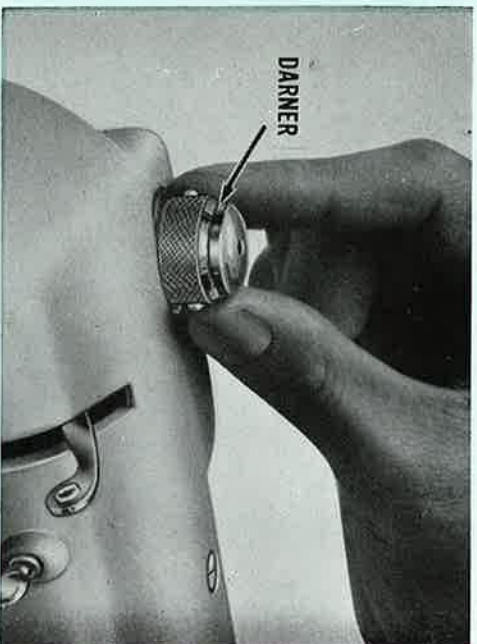

Fig. 18
2. Grasp pressure release knob (Fig. 18) firmly with right hand and turn clock-wise.
4. Push Drop Feed Push Button (12) down as far as it will go (Pg. 14).